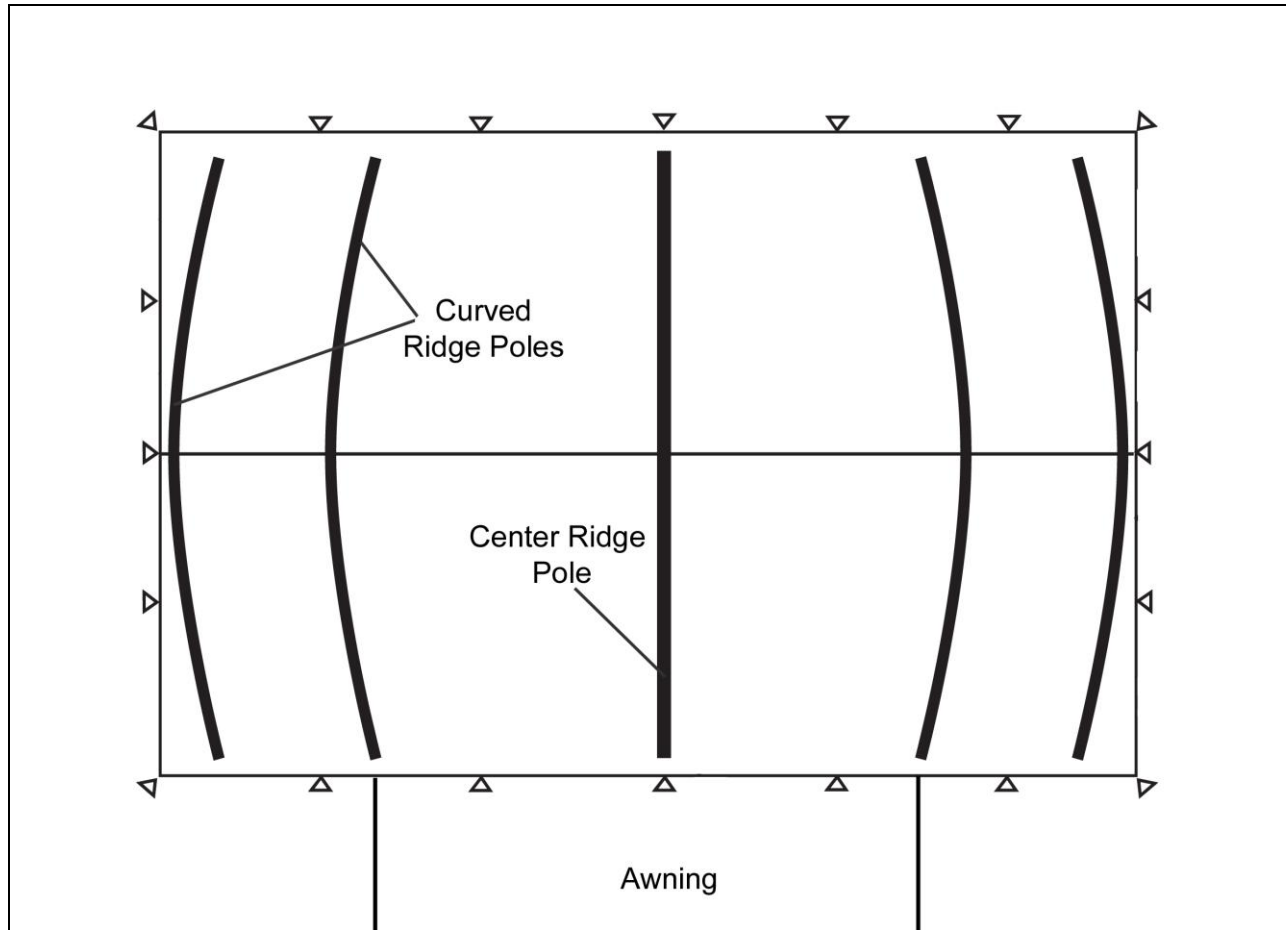

Figure 1
Join all poles together. Note: The curved ridge poles (3) have push pins to lock them in place. Make sure the poles are properly inserted so the push pins securely lock. Unzip the doors to allow air to enter when you raise the tent. Slide the center ridge pole (4) through the sleeve that runs along the center of the roof. Slide the curved ridge poles (3) through the sleeves along both sides of the roof. See figure 1.